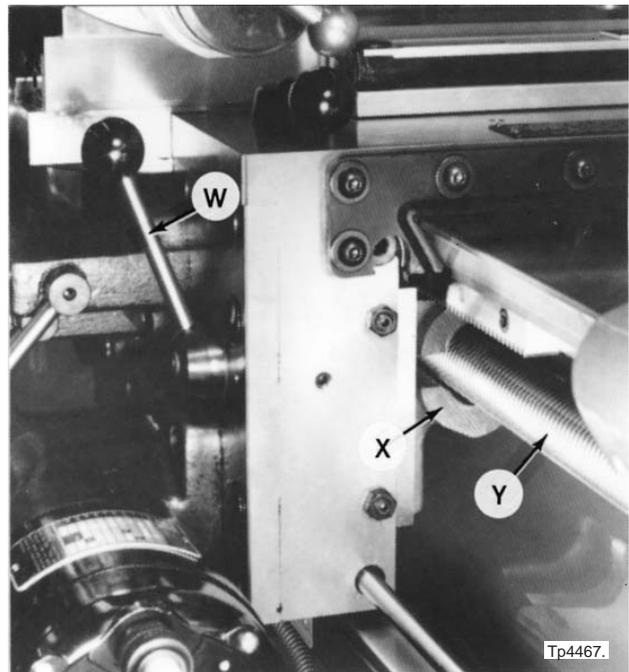

Figure 4.11 - Carriage Lead Screw Nut
10. Engage carriage lead screw nut "X" Figure 4.11, with carriage lead screw "Y" by rotating lever "W" clockwise (as viewed from the front of the machine).
12. Disengage carriage lead screw nut "X" Figure 4.11, from carriage lead screw "Y" by rotating lever "W" counterclockwise.